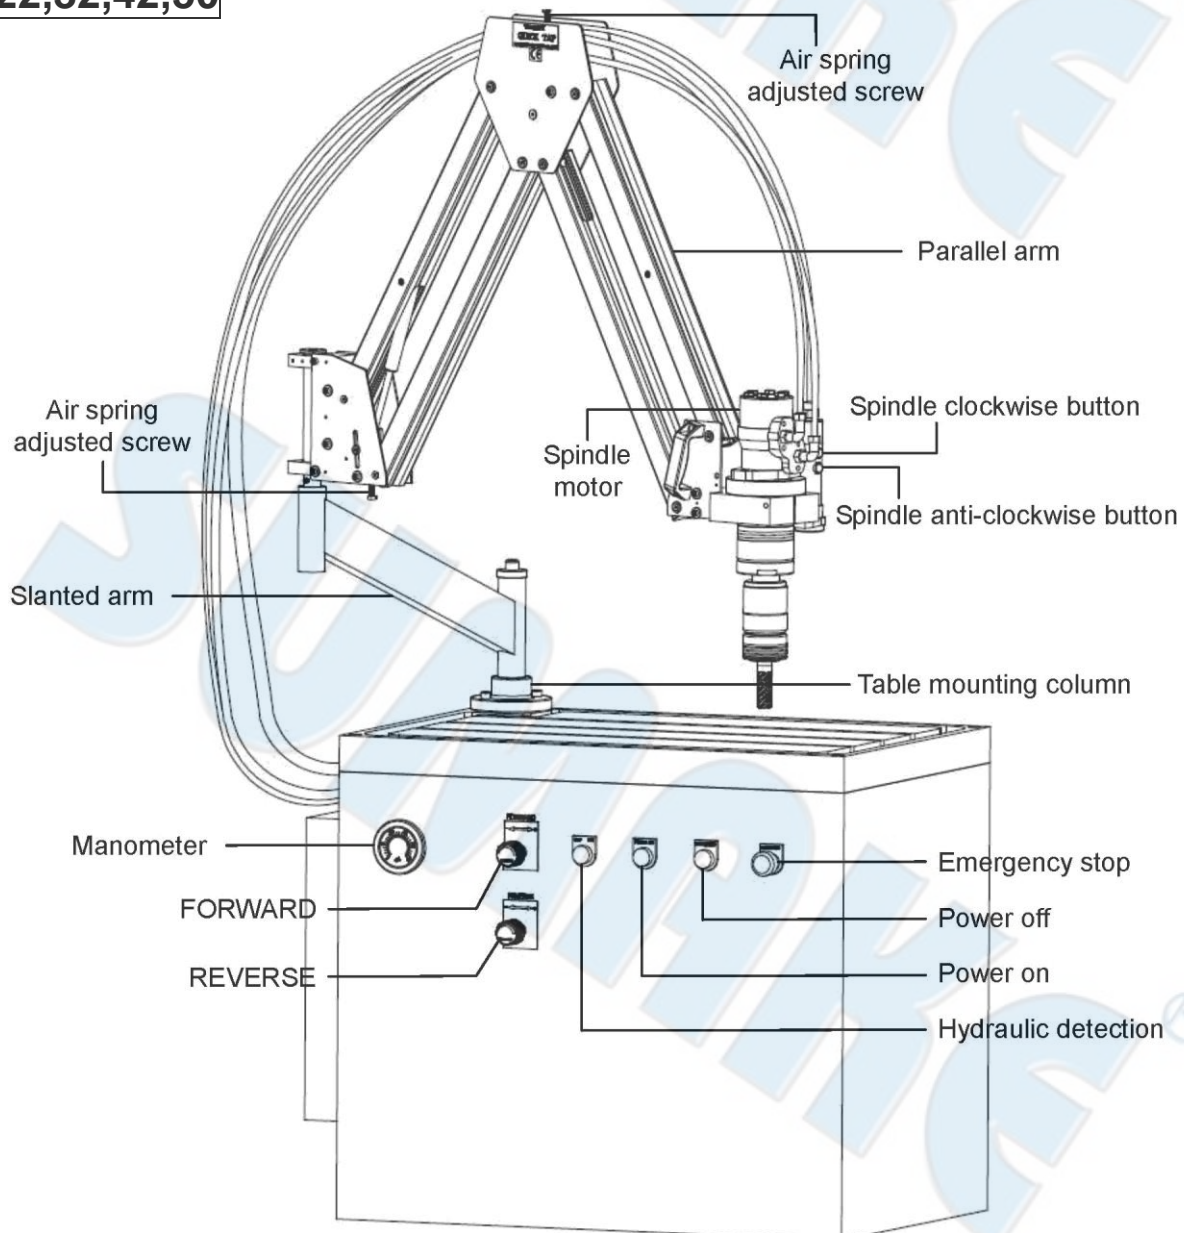

Figure 2-1
Please check for completeness. Refer to Figure 2-1 and Figure 2-2.
A. INTRODUCTION TO THE OPERATION BUTTONS (see Figure 2-1 and 2-2)
- (1) **Manometer** : Show the pressure of the tapping machine.
- (2) **Emergency stop** : Stop the tapping machine immediately.
- (3) **Power off** : Turn the power off.
- (4) **Power on** : Turn the power on.
- (5) **FORWARD** : Increase spindle clockwise speed.
- (6) **REVERSE** : Decrease spindle anti-clockwise speed.
- (7) **HYDRAULIC DETECTION** : The original default setting is ON.
D. ADJUST AIR SPRING (see Figure 2-1 and 2-2)
- A. Turn the power on (see Figure 2-1 and 2-2).
※Reminder : Rotate “FORWARD” or “REVERSE” can adjust spindle speed (see Figure 2-1 and 2-2). Do not adjust spindle speed while doing tapping. ※